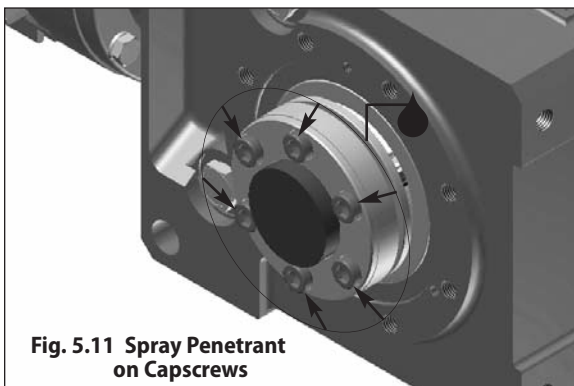

Fig. 5.11 Spray Penetrant on Capscrews
Step 4 – Spray a liquid penetrant onto each of the Taper-Grip® Bushing capscrews. Allow time for the penetrant to settle into the threads of the capscrews. (see Fig 5.11).